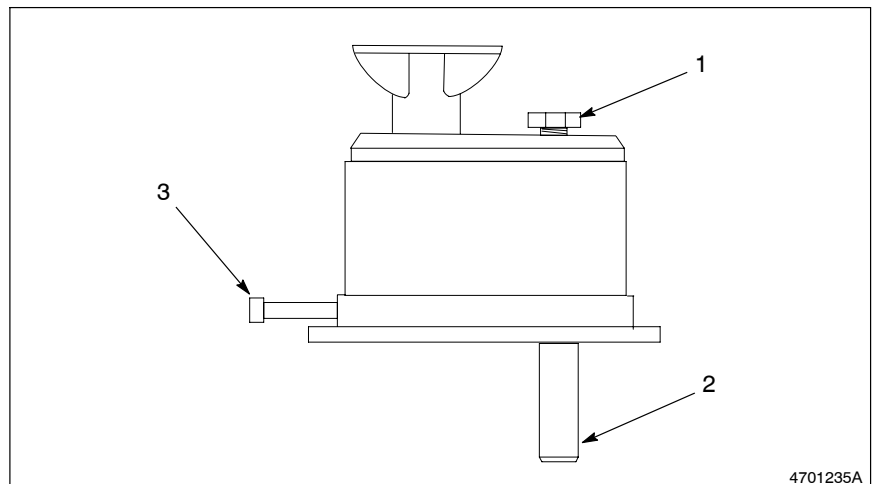

Fig. 5-4 Speed Reducer Filler Hole and Drain Opening
2. See Figure 5-4. Unscrew the plastic plug (1) from the filler hole.
2. See Figure 5-4. Place a small container under the drain pipe (3) then remove the pipe cap.
3. Unscrew the plastic plug (1) from the filler hole on the top of the speed reducer housing.